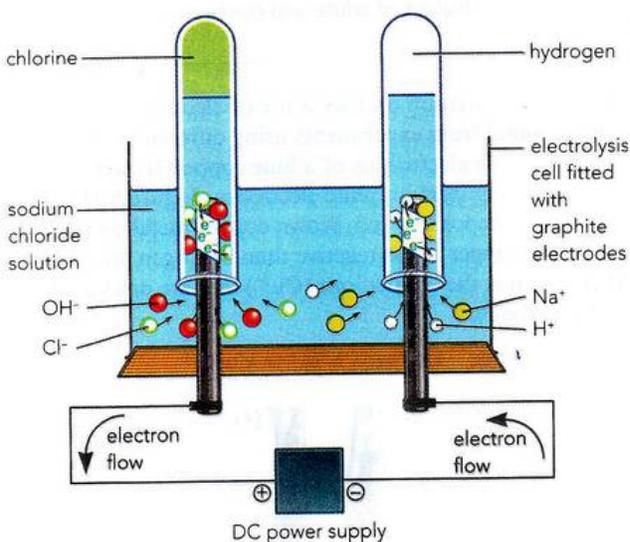

Figure 6.9: Movement and discharge of ions in the electrolysis of concentrated sodium chloride solution.
A concentrated solution of sodium chloride can be electrolysed in the laboratory (Figure 6.9). There are four different ions present in the solution. The positive ions (cations), Na^+ and H^+ , flow to the cathode, attracted by its negative charge. The negative ions (anions), Cl^- and OH^- , travel to the anode.
- electrons move through the wires of the external circuit under the influence of the battery or DC power source (see Figure 6.9)